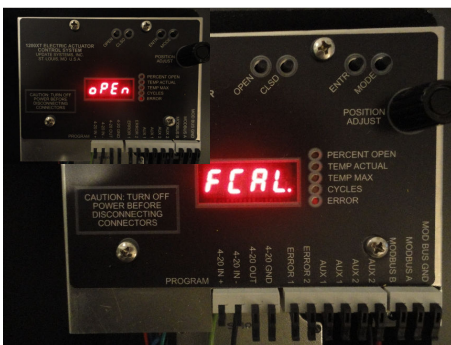
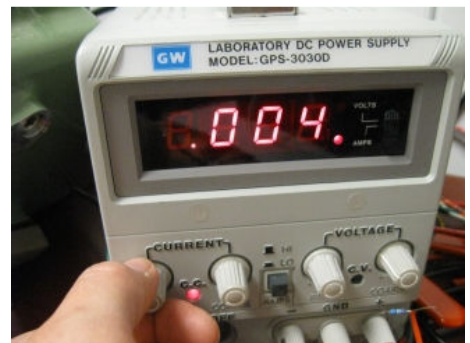

Figure 11
Figure 12
Step 2: After entering [CAL] mode, the display will read [FCAL] as shown in Figure 11. Press the **ENTR** button to enter this cal mode. The display will read [oPEn]. If desired, turn the knob to select the position [pCAL] or 4-20 only calibration modes [iCAL] (see the corresponding next two sections). The unit may now be calibrated for the valve-open 4-20 input and the desired valve-open position. Apply the desired current input signal on the 4-20 IN/OUT port pins 1 and 2 to be associated with valve open (e.g. Figure 12). The main machine controller (e.g. a PLC) normally provides the reference input. The 1200XT will calibrate to an input ranging from 3mA to 23mA.